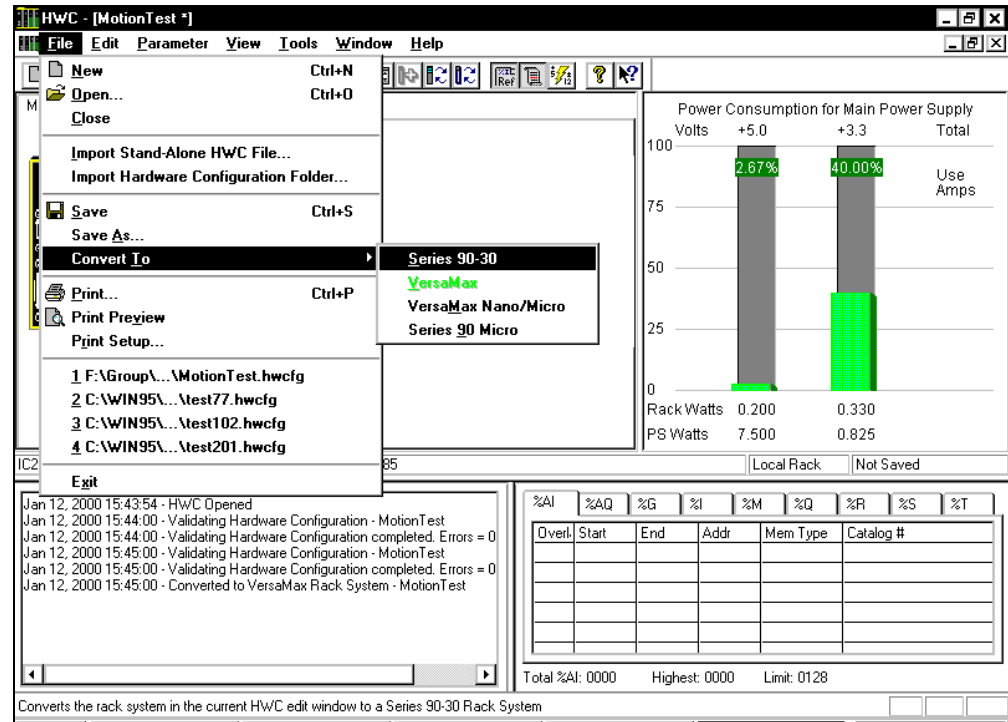

Figure 2-21. Hardware Configuration Rack Selection
4. You may need to change the default hardware configuration to Series 90-30. To perform this action, select **File** from the menu bar, **Convert To** from the File menu, and **Series 90-30** from the Convert To menu. This changes the default PLC configuration to a Series 90-30. The menu selections are shown in Figure 2-21.